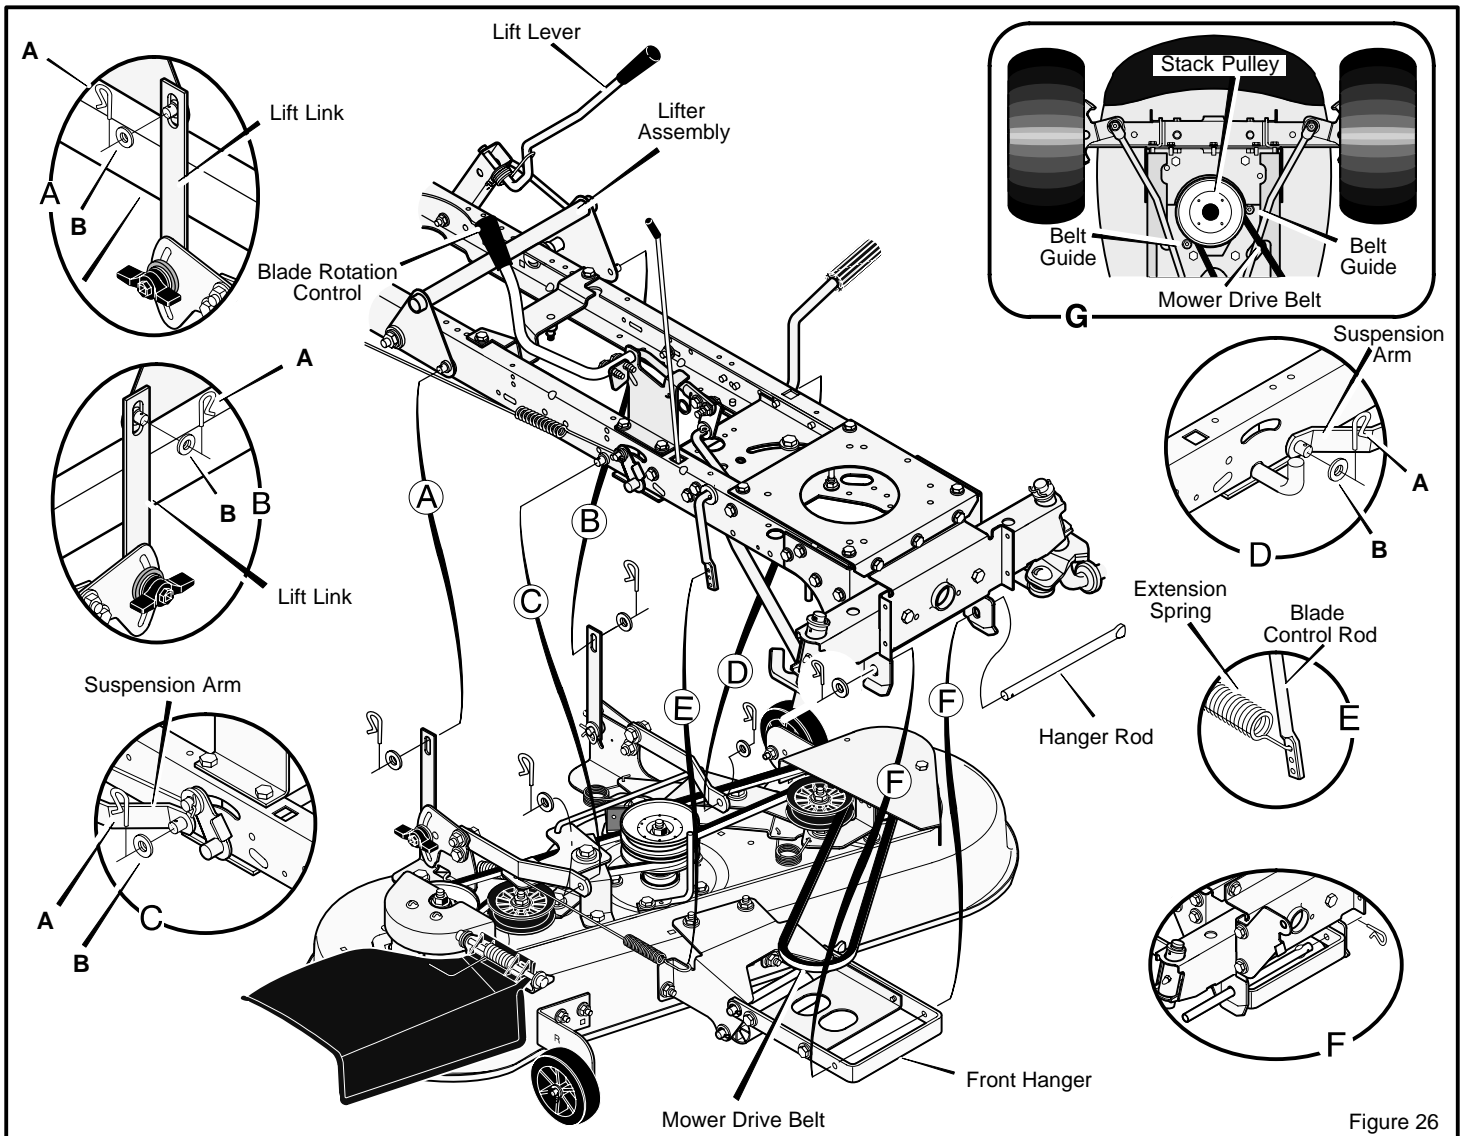

Figure 26
3. Remove the hair pins and the washers from the **suspension arms** (Figure 26). See illustrations "C" and "D".